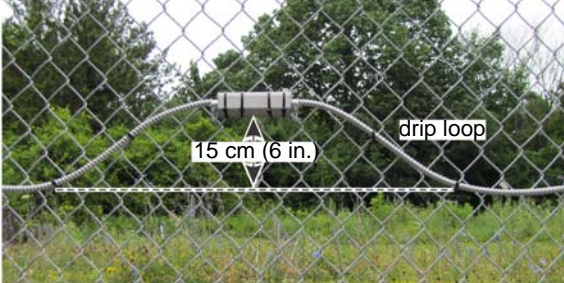

Figure 54: Making the splice connection
- Use armored conduit fittings to protect cable splices and terminations (see Figure 54:).